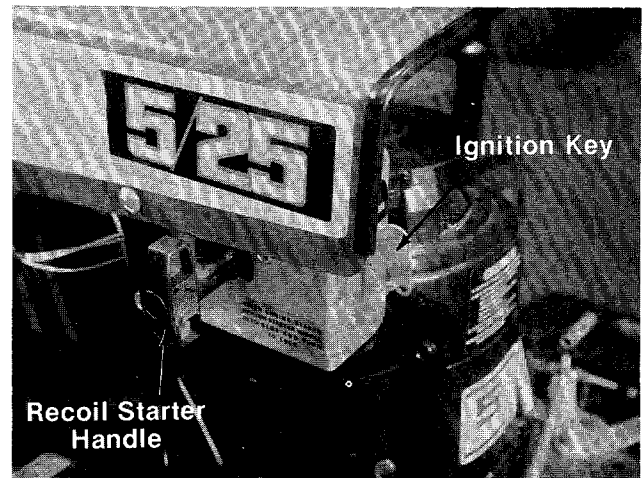

FIGURE 12.
- B. The Recoil Starter Handle is located on the left hand side of the hood. To operate the recoil starter handle, twist it until it is in the horizontal position and pull to start the engine. After the engine starts, return the Recoil Starter Handle to the mounting bracket and turn it to the vertical position as shown in figure 12.
- C. The Ignition Key must be turned to the right to the "ON" position before the Recoil Starter Handle is pulled to start the engine. Turn the Ignition Key to the left to the "OFF" position to stop the engine. See figures 12 and 13.
- Turn the ignition key to "ON" position. See figure 12.
- Twist the recoil starter handle until it is free and pull it with a quick steady motion. After the engine starts, return the recoil starter handle and twist it until it locks. See figure 12.